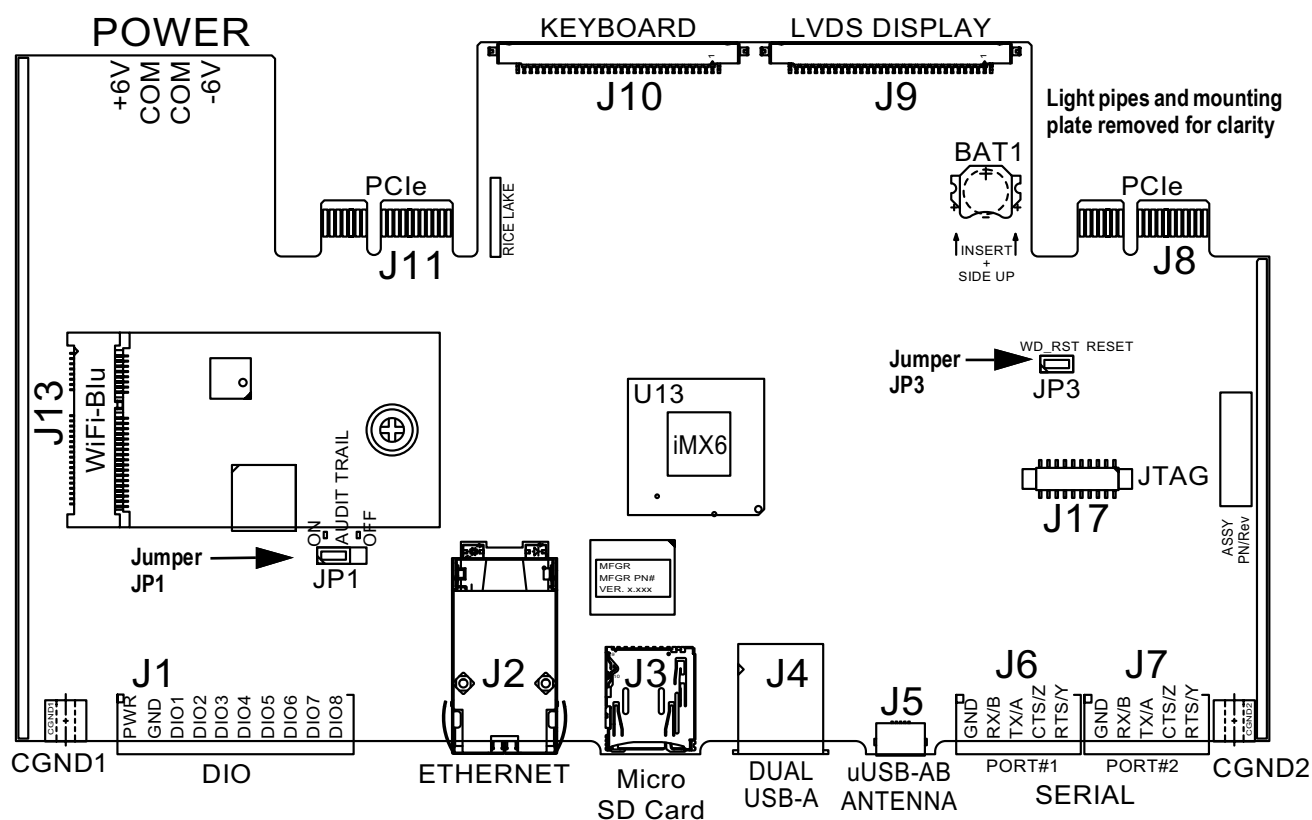

Figure 3-3. Jumper Locations
**NOTE:** To access Configuration through the front panel (by pressing the button on the touchscreen, jumper JP1 needs to be in the on (left) position. In order to restrict access to Configuration using the front panel, JP1 needs to be in the off (right) position, requiring the setup switch to access Configuration, see Figure 3-3 on page 60.